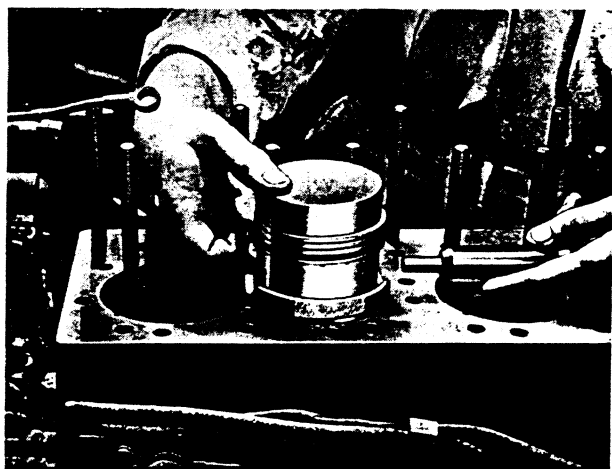

FIG. 144.
2. Remove big-end cap and bolts of connecting rod to be fitted. Hold up connecting rod inside appropriate bore with big-end in clearance slot of cylinder block and support appropriate piston with skirt inside Service Tool FT.109. Align small end with holes in gudgeon pin bosses using Gudgeon Pin Pilot FT.110, then press in pin with drift FT.111. See Fig. 144 and 138.